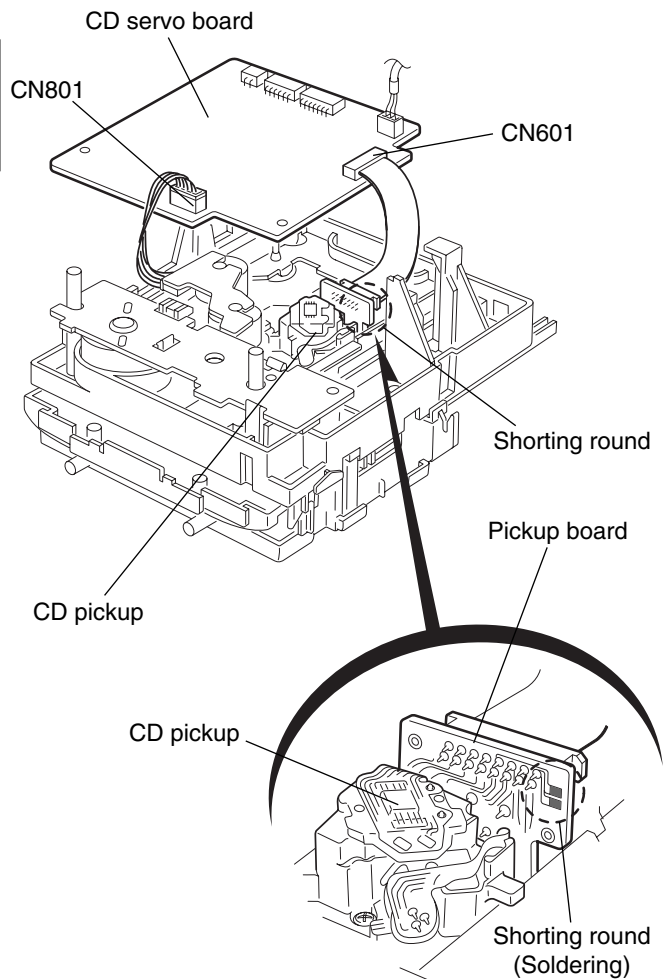

Fig.2
2. Disconnect the card wire from connector CN606 on the CD servo board. Turn over the CD servo board as shown in Fig.2 and put aside temporarily.